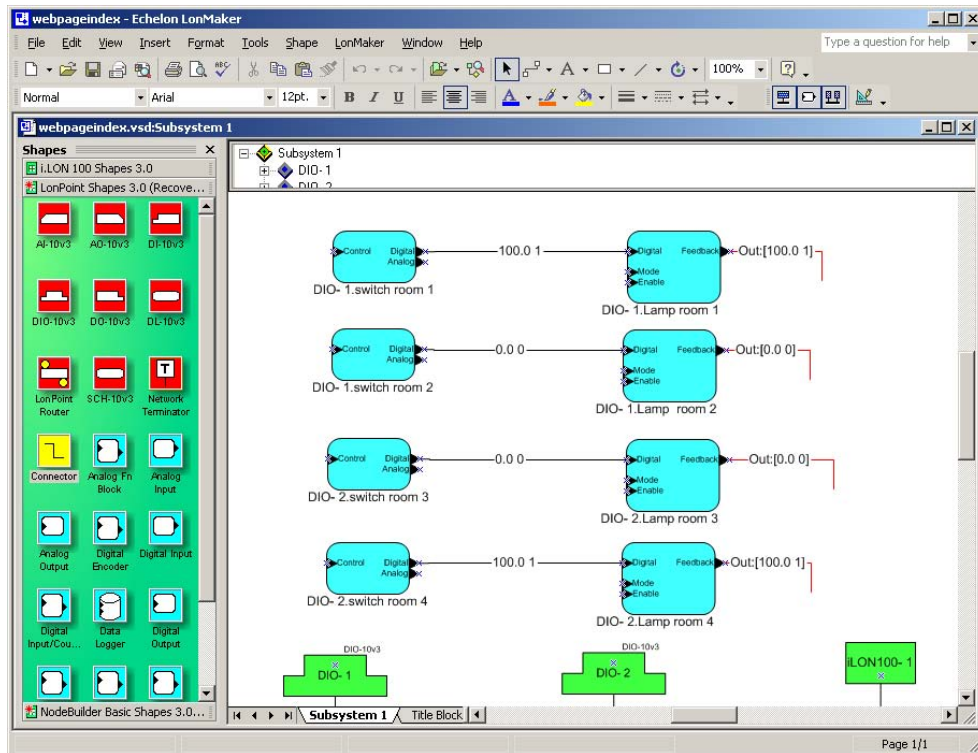

Figure 13.60 Example Network
1. Create your network with LonMaker, making sure to add all the required devices and function blocks. In this example, you would create a LonMaker drawing, and add an *i*LON 100 device and two DIO-10 devices. You will use one input and one output from each DIO-10 to represent a light switch and a lamp. You would also add 4 input function blocks (name them **Switch 1...Switch 4**) and 4 output functions (name them **Lamp 1...Lamp 4**) for the DIO-10s. Connect the output for the Digital Input/counter function block to the input for the Digital Output function block for each input/output pair (or room). Figure 13.60 shows how your network would appear in LonMaker.